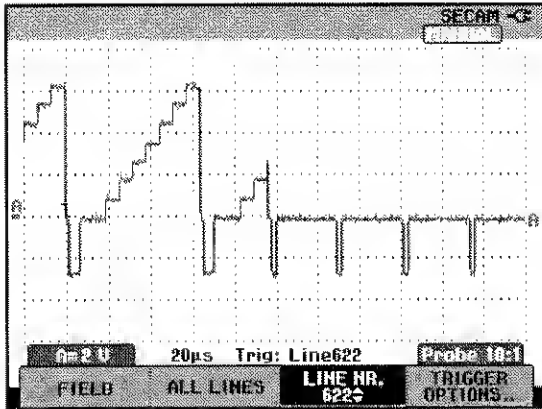

Figure 4-9. Trace for PAL/SECAM line 622
- 622 for PAL or SECAM, see Figure 4-9